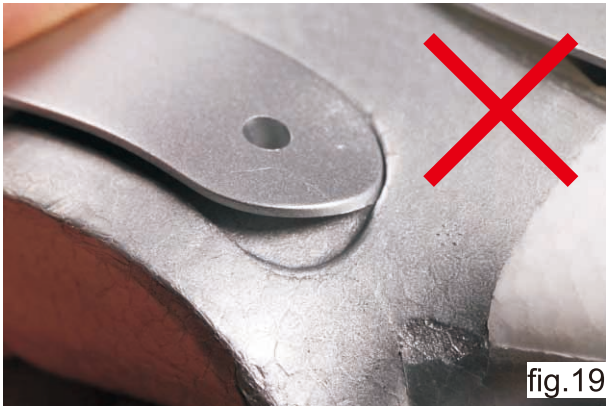

fig.17
- 15) Locate the wing bolt plates “G”. Place the rear bolt plate into the notch. The plate only fits correctly in one direction (fig. 17).